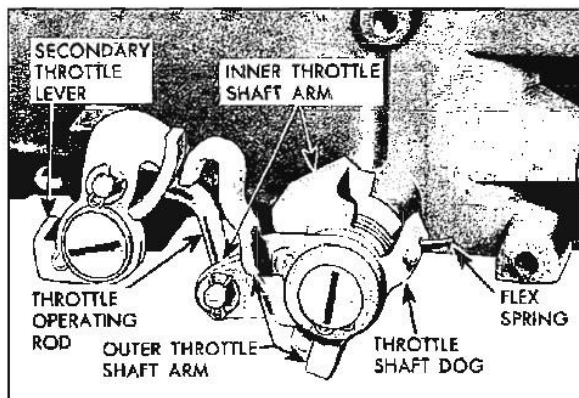

Fig. 6B-83 Primary and Secondary Throttle Linkage
25. Remove outer throttle shaft arm and throttle shaft dog (Fig. 6B-83).